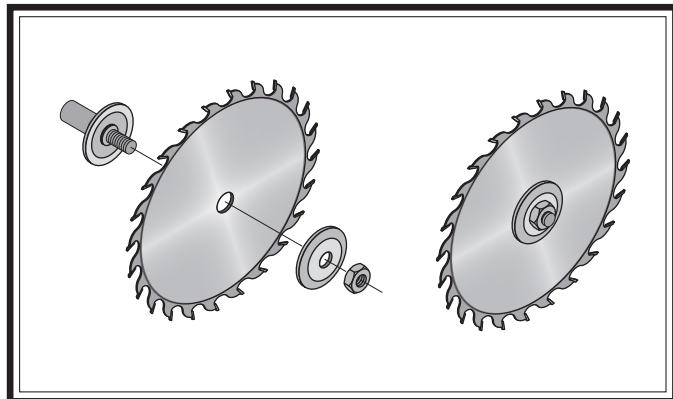

Figure 36. Example of correct blade direction and blade components installation order.
4. Slide blade over arbor with teeth facing front of saw (see **Figure 36**).